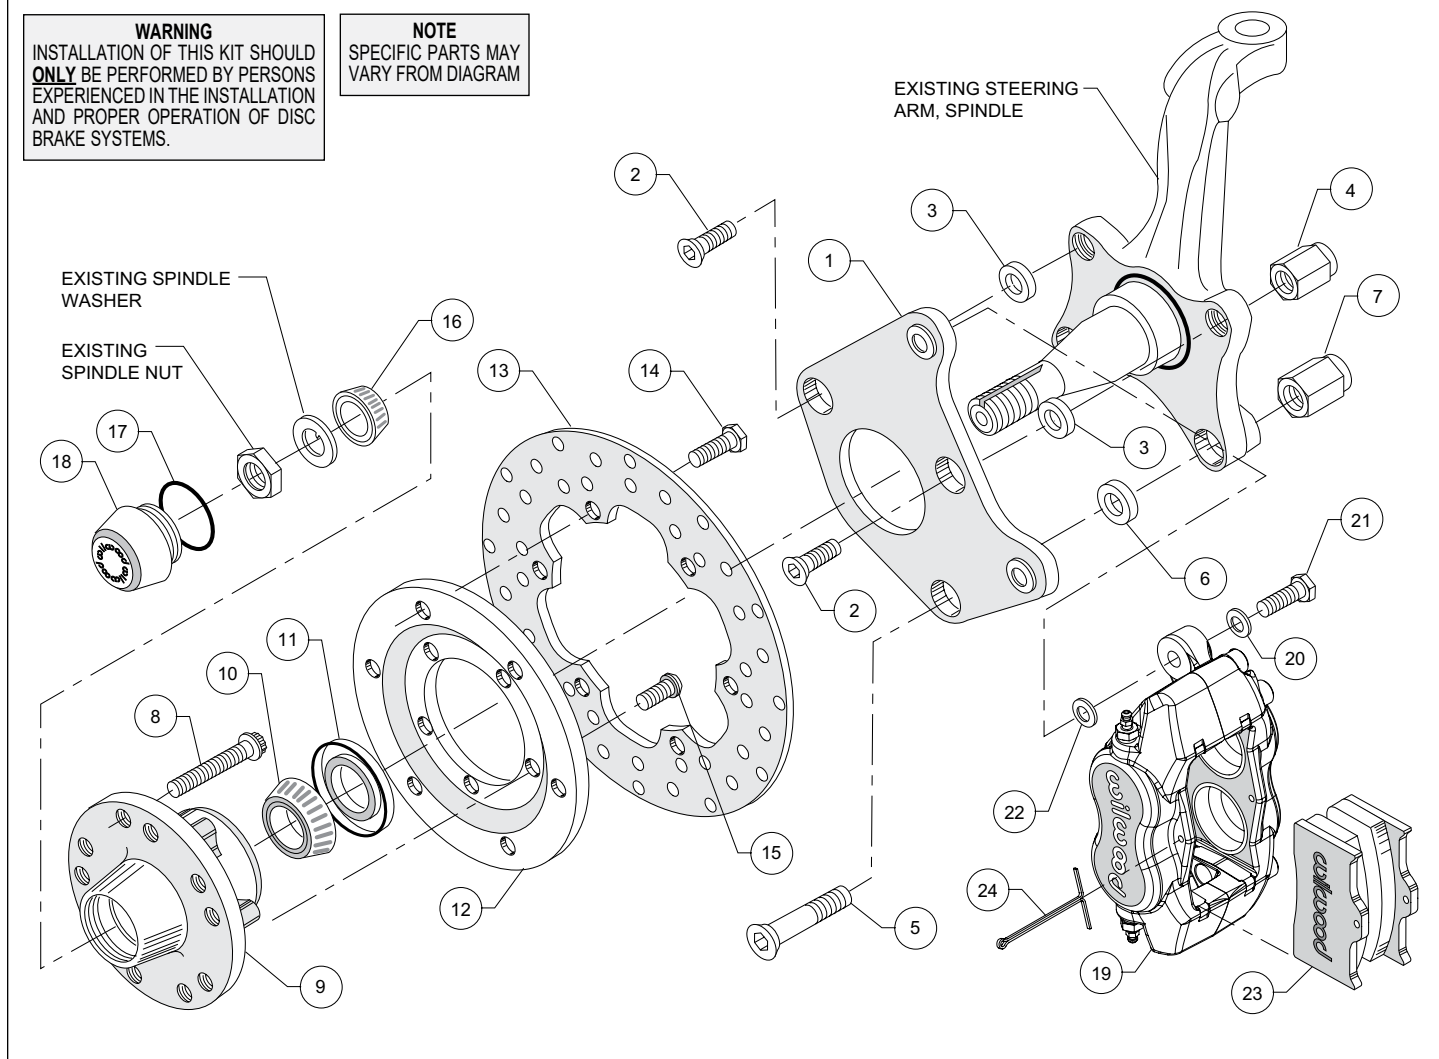

Figure 1. Typical Configuration, Drum Spindle
NOTE: Numbers in parenthesis refer to the parts list and Figure 1 on the preceding pages.
- Mount the adapter/rotor assembly (12/13) to the hub (9) using bolts (5) (finger tight), as shown in Figure 1. Using an alternating sequence, remove bolts one at a time, apply red *Loctite*® 271 to the threads, and torque to 45 ft-lb.
- Pack the small outer bearing cone (16) with high temperature disc brake bearing grease. Lightly coat the spindle bearing surfaces with